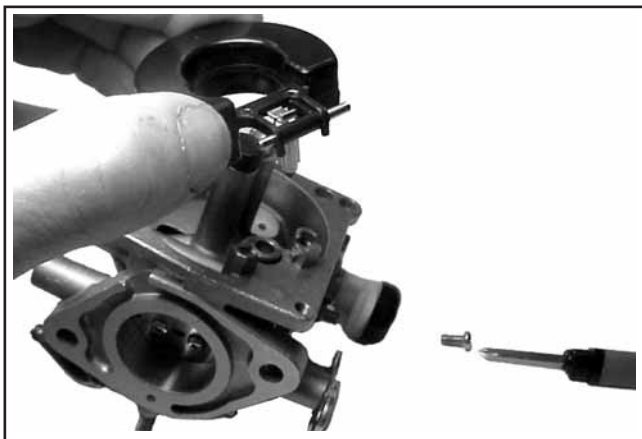

Figure 5-16. Removing Float and Inlet Needle.
2. Remove the float pin screw and lift out the old float, pin, and inlet needle. See Figure 5-16. Discard all of the parts. The seat for the inlet needle is not serviceable, and should not be removed.